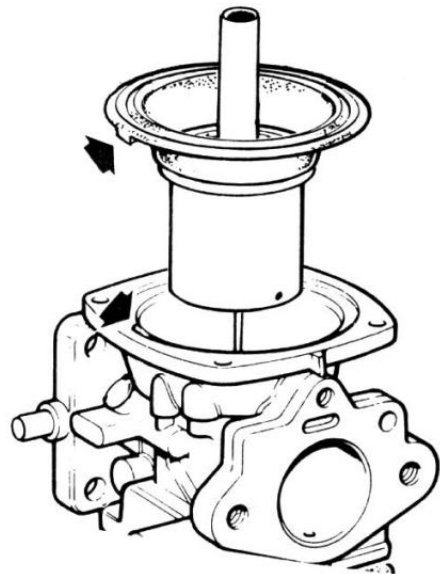
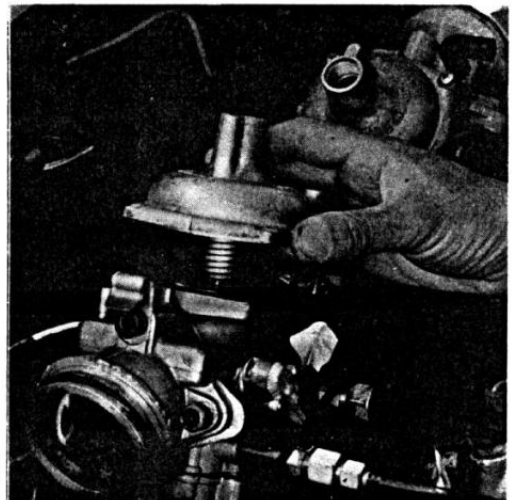

FIG. 73
FIG. 74
17. Now, with the jets/needles and fuel level set correctly refit the pistons and diaphragm assemblies, springs and vacuum chambers to their original location ensuring that the tag on the diaphragm locates in the recess as seen in **Fig. 73** and the pistons move freely when the screws are tightened **equally. Fig. 74.**